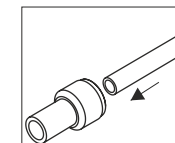

Fig. 4
- 1) Push the flexible tubing 1,5 cm (0,6 in) deep into the quick connector (Fig. 4)